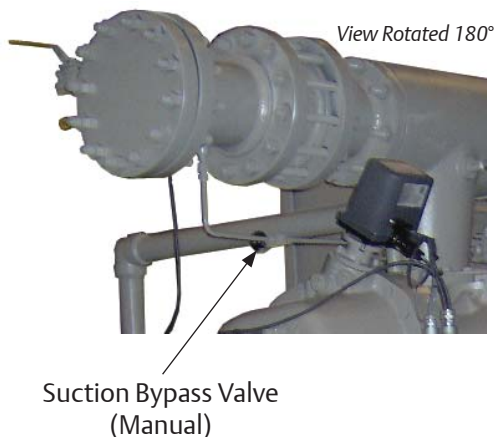

Figure 5-1. Suction By-Pass Valve Location (Manual) (1 of 2)
2. If equipped with equalizing solenoid to control suction by-pass, allow solenoid to remain open until pressures equalize, see Figure 5-1 (2 of 2).
4. If equipped with manual suction by-pass valve and it is not open, open suction by-pass valve to allow oil separator pressure to vent to low-side system pressure, see Figure 5-1 (1 of 2). Close suction by-pass valve when complete.